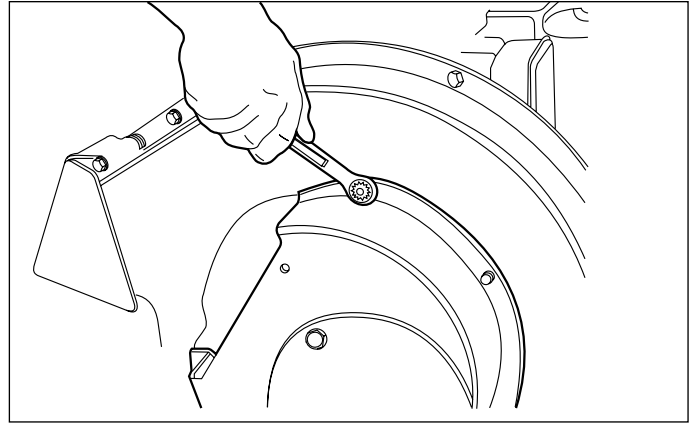

Figure 13. Removing the Rotor Housing
4. Remove the rotor cover by removing the hardware that secures it to the main housing (Figure 13).
4. Remove the rotor cover by removing the hardware that secures it to the main housing (see Figure 13).